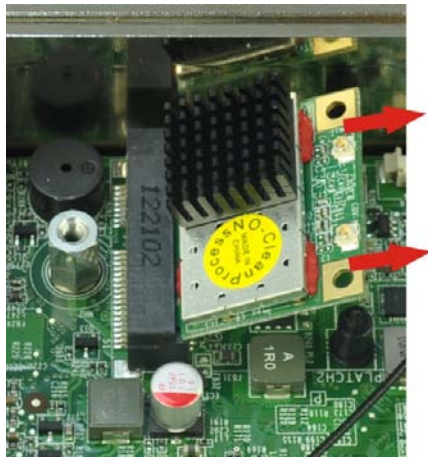

Figure 5-11: Removing the WLAN card
Step 6: Grasp the WLAN card by the edges and carefully pull it out of the socket (**Figure 5-11**).